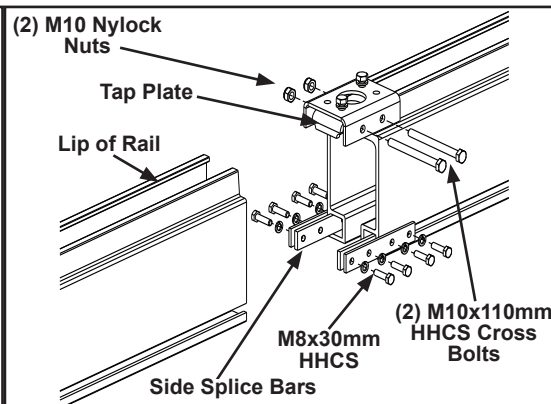
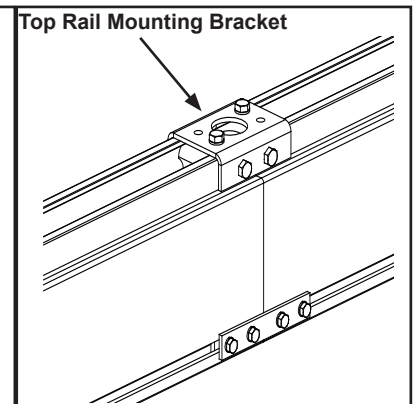

Figure 3-74
Figure 3-75
- Step 4. Slide top rail mounting bracket and tap plate together. Ensure tap plate is below lip of bracket channel. See Figure 3-74.
- Step 8. Tighten two (2) M10 x 30 mm HHCS on top rail mounting bracket to align and secure two (2) rails. Tighten bolts until lock washer is flat. Do not over tighten.
- Step 9. Center two (2) side splice bars over splice.
- Step 10. Tighten eight (8) M8 x 30 mm HHCS on side splice bars. Tighten bolts until lock washer is flat. Do not over tighten. Verify splice joint has no gaps. See Figure 3-75.
- Step 11. Use top rail mounting bracket as template to mark rail and drill two (2) holes using 13/32 in (11 mm) drill bit. Do not attempt to drill holes in-line.
- Step 12. Install two (2) M10 x 110 mm HHCS with M10 nylock nuts. **Tighten until bolts are snug + ¼ turn.** Do not over tighten. Over tightening could cause bracket to bend.